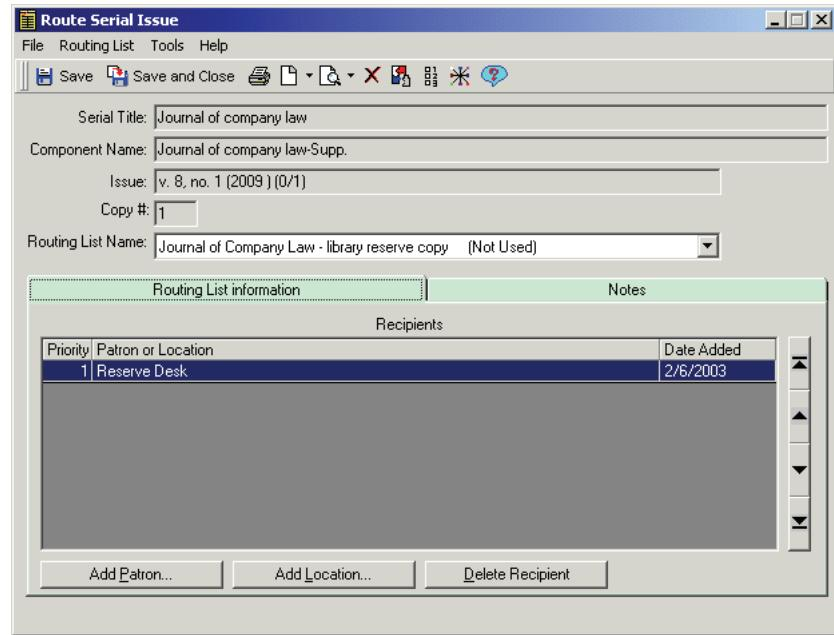

Figure 9-10. Routing list associate with a component
- The routing list associated with the component displays. After closing the **Route Serial Issue** dialog box (Figure 9-10), the newly-created item record displays if a single item record was created. Close the item record after adding needed information. The **Serials Check-In Receive/Mark** workspace displays the information of the issue you received.